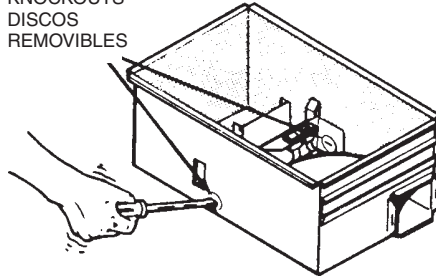

FIG. 3
4. Insert the adjustable mounting brackets into the bracket channels on the housing. (FIG. 3)